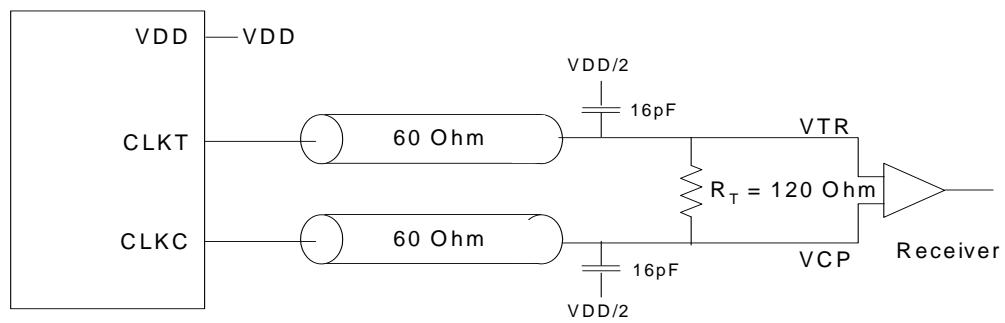

Figure 6. Differential Signal Using Direct Termination Resistor
7. For load conditions see *Figure 6*.
8. The value of  $V_{OC}$  is expected to be  $|V_{TR} + V_{CP}|/2$ . In case of each clock directly terminated by a  $120\Omega$  resistor. See *Figure 6*.
9. All outputs switching loaded with  $16\text{ pF}$  in  $60\Omega$  environment. See *Figure 6*.
14. All differential input and output terminals are terminated with  $120\Omega/16\text{ pF}$  as shown in *Figure 6*.